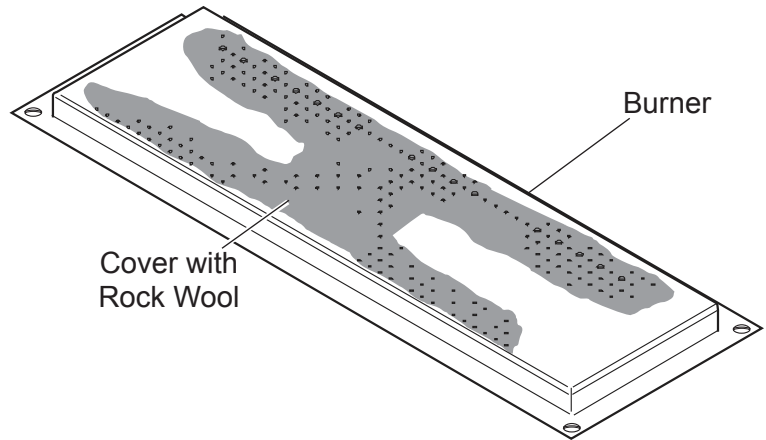

Figure 50 - Placement of Rock Wool on Burner
2. Distribute one layer of rock wool to cover the entire burner. *Figure 50*